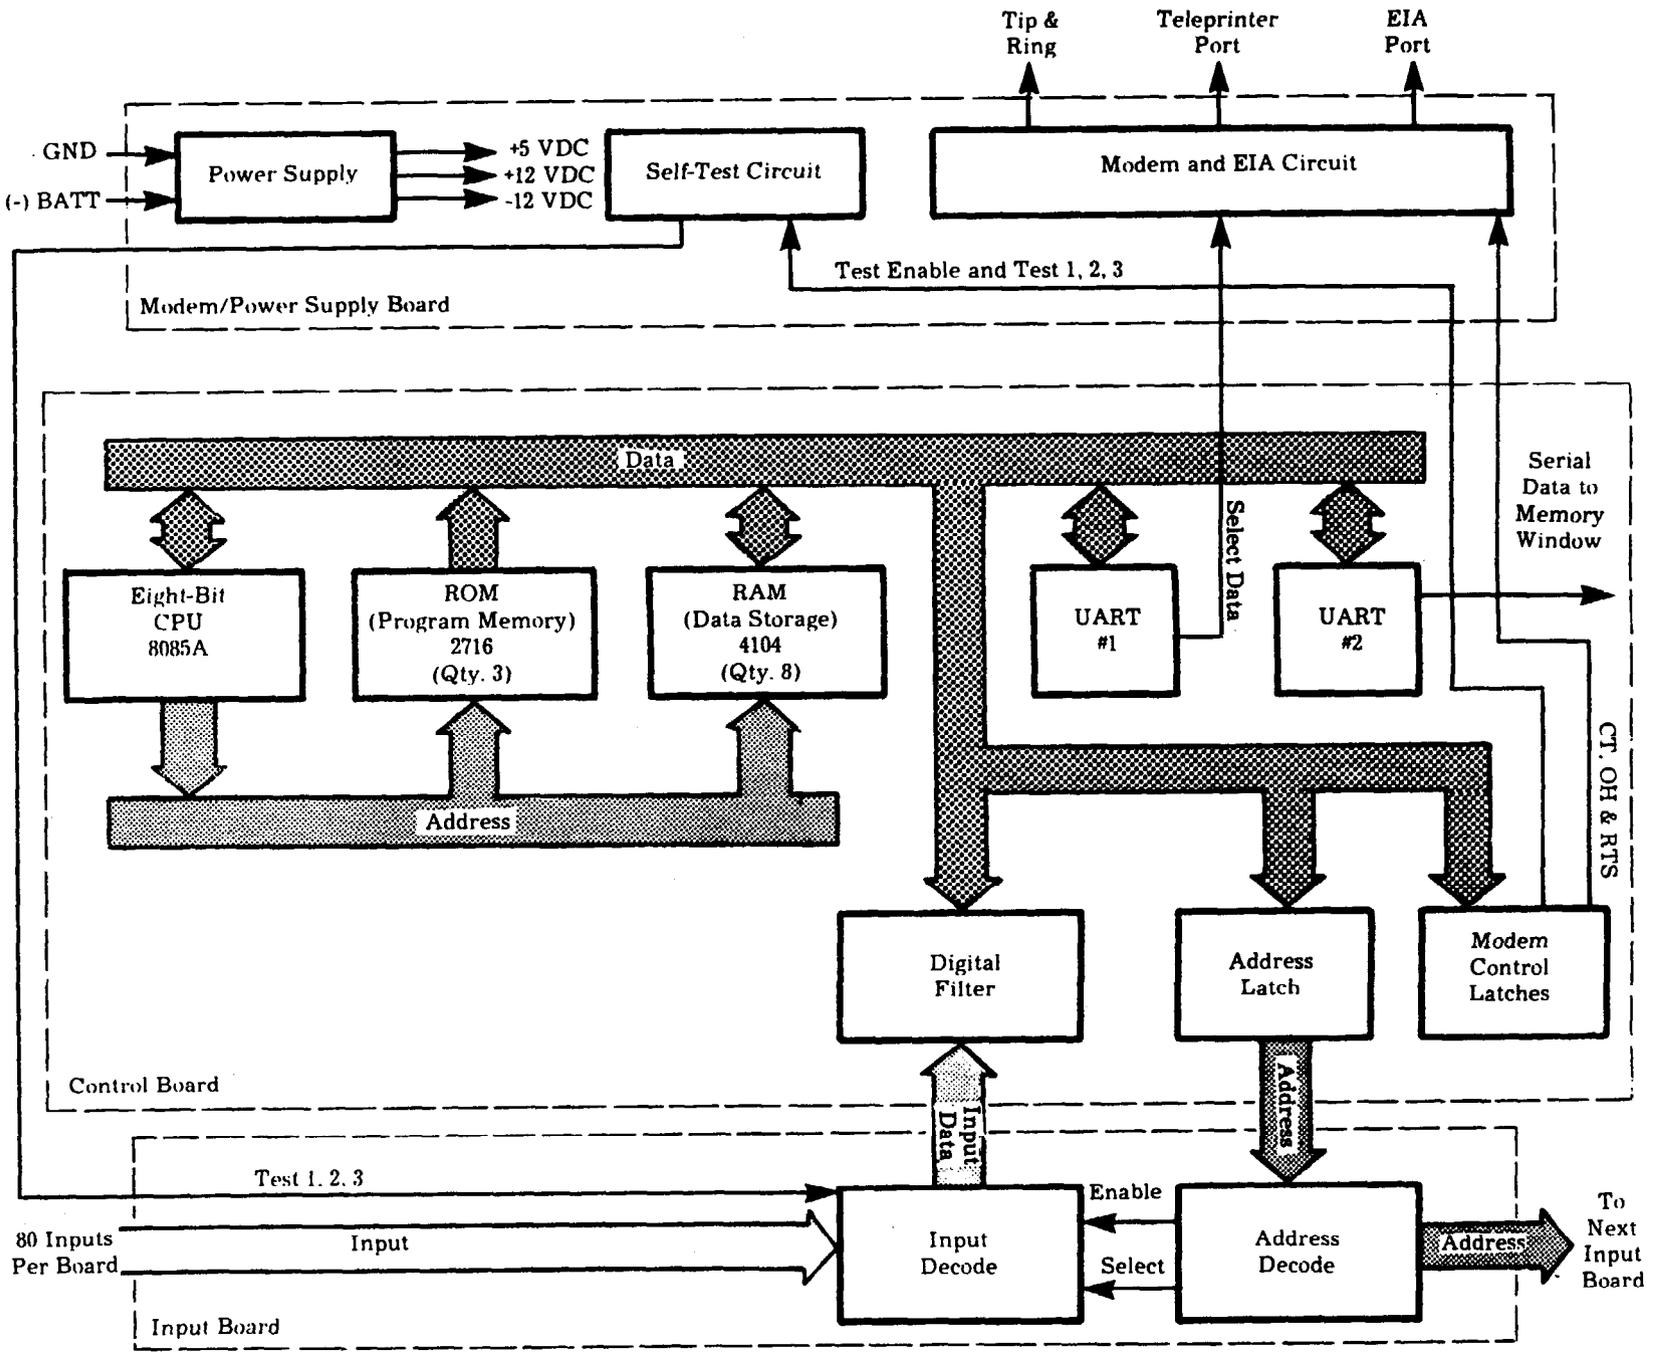

Figure IV-1—Traffic Recorder, Simplified Block Diagram
2.01 The Traffic Recorder contains three circuit boards consisting of the Modem/Power Supply Board, the Control Board, and the Input Board. Each unit requires one Modem/Power Supply Board, one Control Board and at least one Input Board. Additional Input Boards may be used (up to a total of 23) to increase the number of telephone trunks that can be monitored. See Figure IV-1 for functional block diagram.